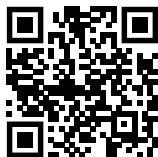

Fig. 143
- Öppna Liebherr SmartMonitoring Dashboard. (se Fig. 143)